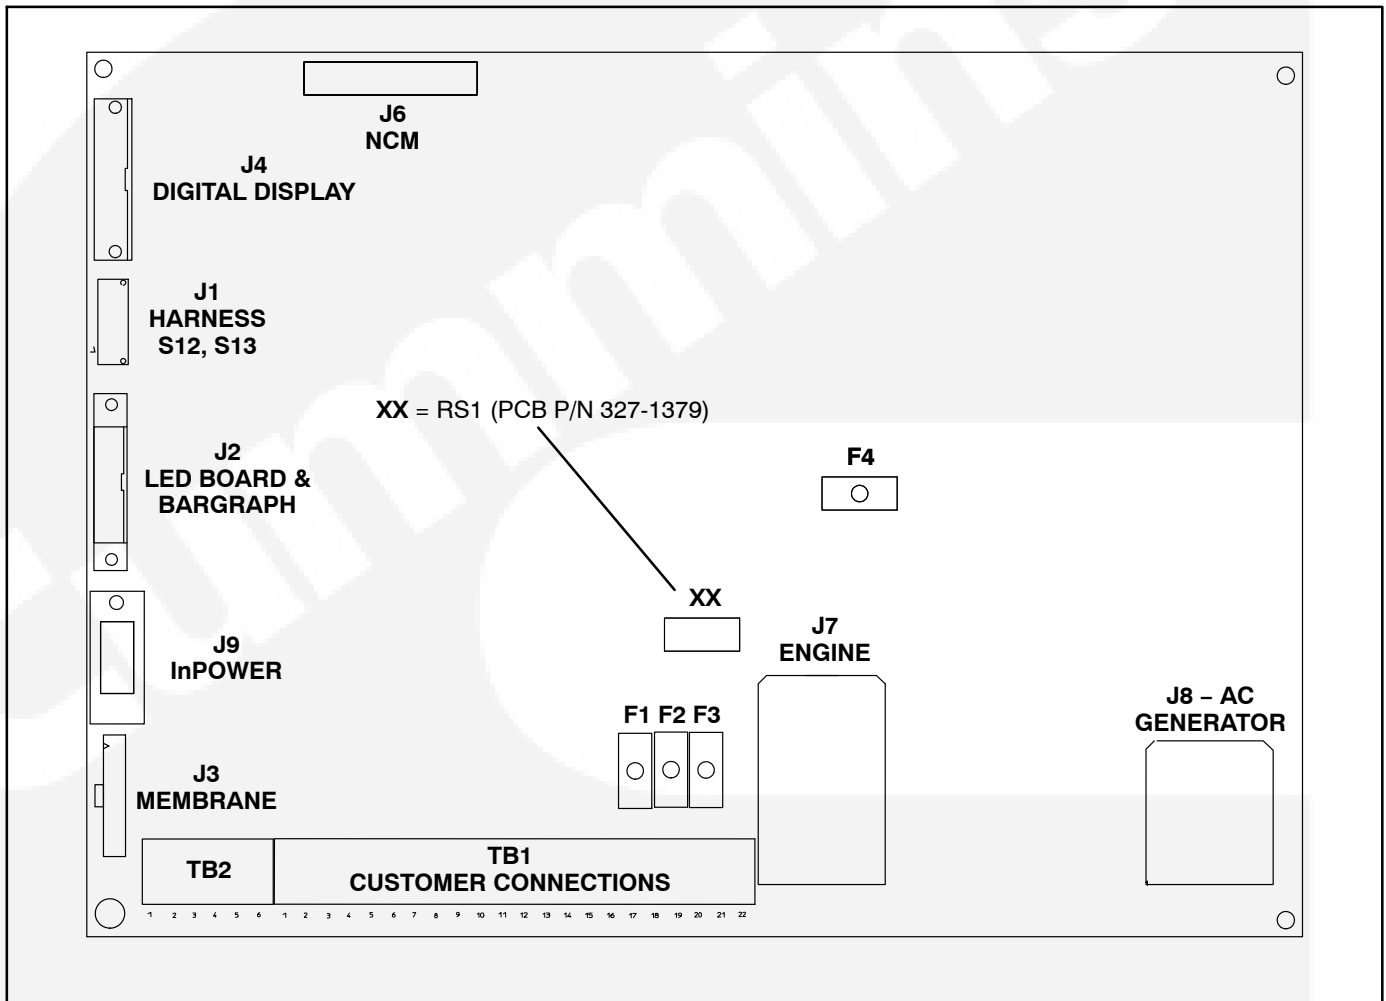

FIGURE 4-3. BASE BOARD
The base circuit board (Figure 4-3) contains all of the electronic circuitry required to operate the generator set. The Base board provides fuel control and engine speed governing, main alternator volt-
The following paragraphs describe each of the connectors (J), fuses (F) and terminal boards (TB) shown in Figure 4-3.